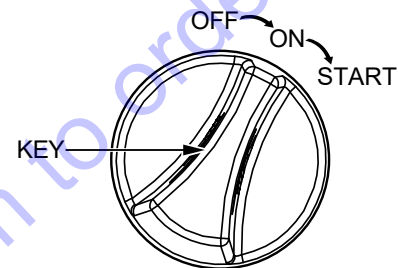
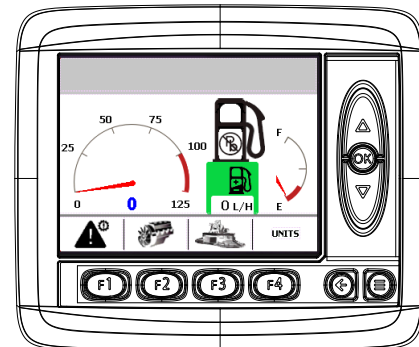

Figure 27. Ignition Key Switch
Figure 28. Digital Display (Main Screen)
2. Insert the **ignition key** into the **ignition switch** (Figure 27).
3. Turn the ignition key clockwise to the **ON** position (Figure 27). The **digital display** will turn on and the main screen (Figure 28) will appear on the display.